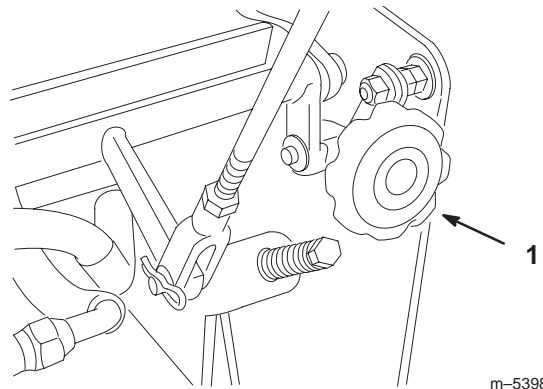

Figure 46
4. If the unit tracks to one side or the other, turn the quick track knob . Turn the knob right to steer right and turn the knob left to steer left (Fig. 46).